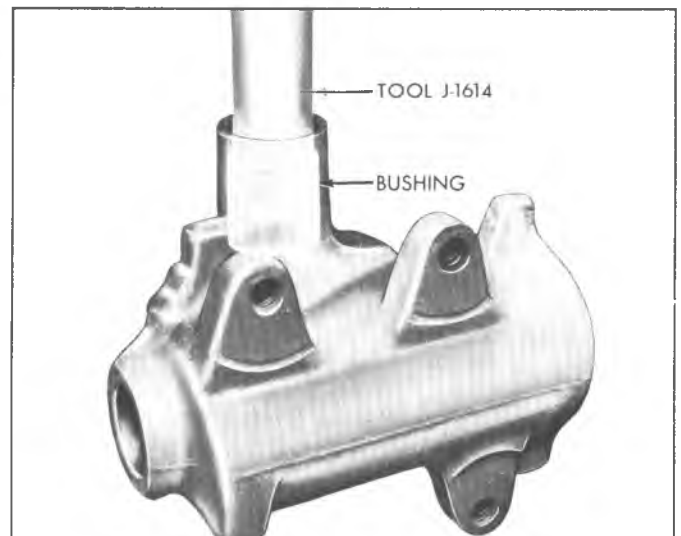

Fig. 8--Removing Pitman Shaft Bushing--Typical
1. Support the steering gear housing in an arbor press and press the pitman shaft bushing (2 bushings on Corvette and G10-30 Series Trucks) from the housing using Tool J-1614, inserted from the lower end of the housing (fig. 8).